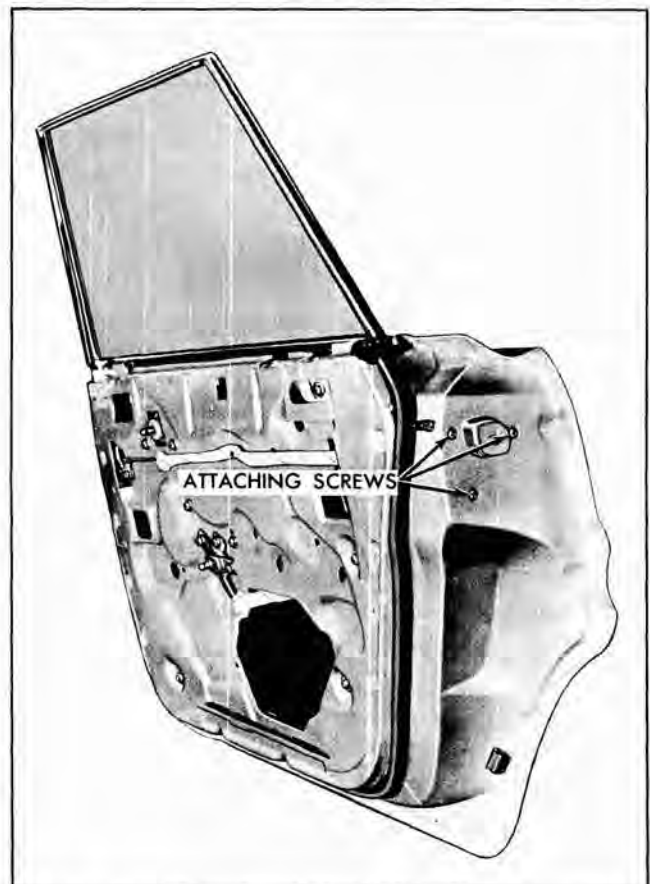

Fig. 3-38 Door Lock Attaching Screws
4. At lock pillar facing, remove door lock attaching screws and remove lock assembly through access hole (Fig. 3-38).